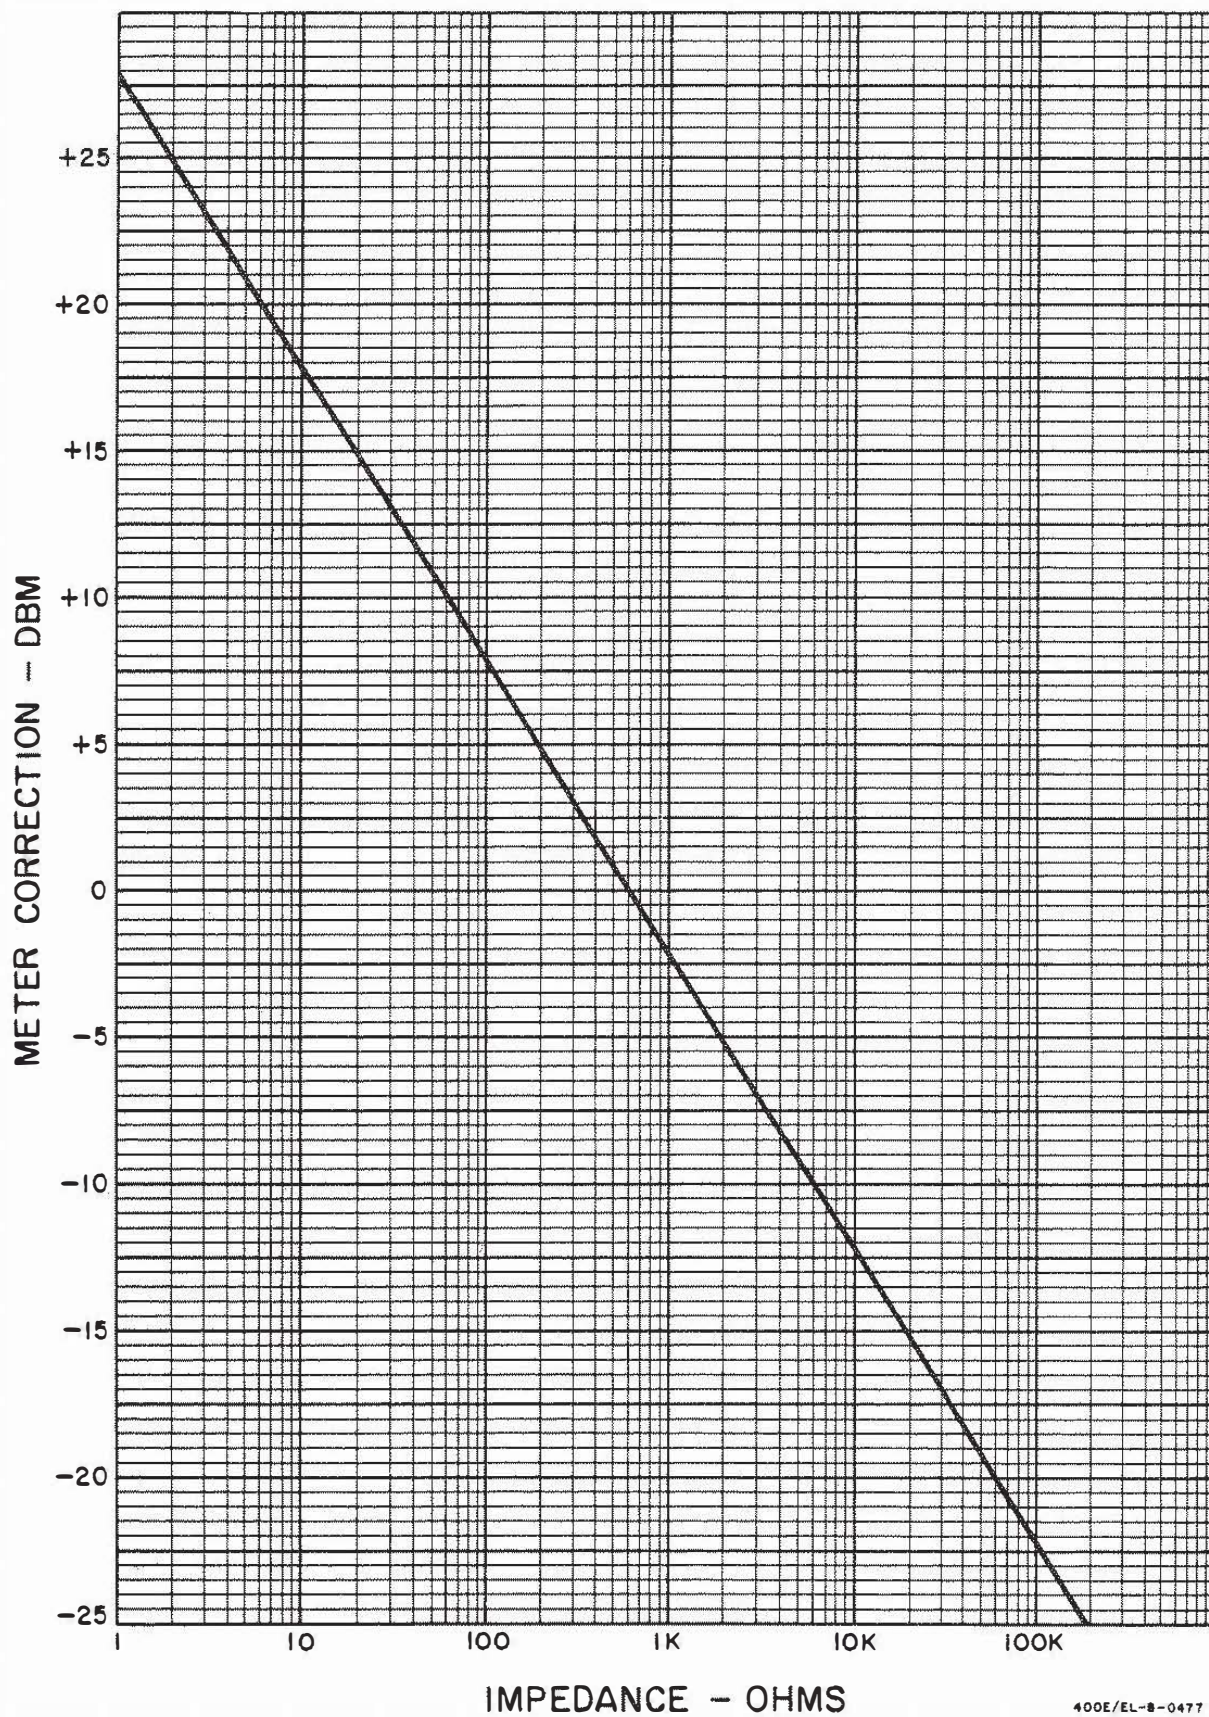

Figure 3-3. Impedance Correction Graph
- d. A reading in dB may be converted to dBm by using the Impedance Correction Graph (Figure 3-3). For example: to convert a 40 dB reading across 100 ohms to dBm, locate the 100 ohm load impedance on the bottom of the graph. Follow the impedance line to the heavy black line, and read the meter correction at that point. The correction for 100 ohms is +7.5 dBm, and the corrected reading is +47.5 dBm.